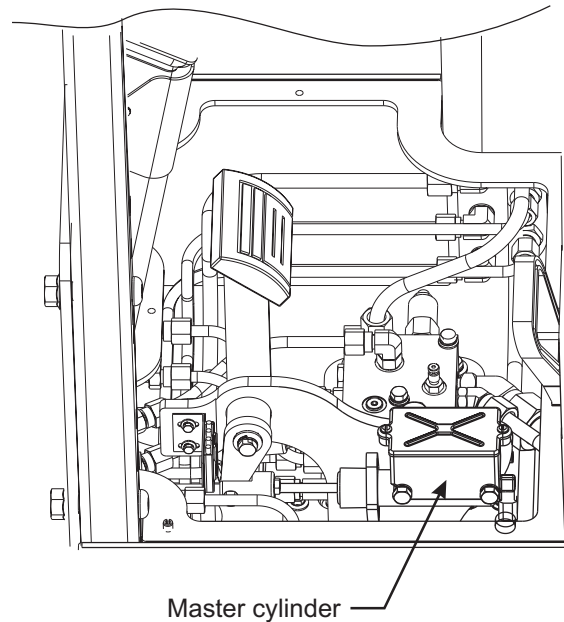

Figure 4-11 Master Cylinder
2. First clean the reservoir cap to avoid fluid contamination, then remove the fill cap and rubber gasket (See Figure 4-11).